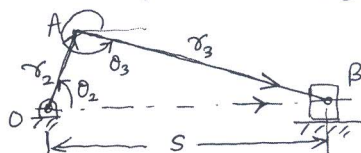

Fig.Q5(a)
- 5 a. For the slider crank mechanism shown in Fig.Q5(a), write (i) loop closure equation (ii) differentiate loop closure equation with respect to time to get velocity equation (iii) differentiate velocity equation with respect to time to get acceleration equation.
- b. In Fig.Q5(a), if  $r_2 = 100\text{mm}$ ,  $r_3 = 350\text{mm}$ ,  $\theta_2 = 60^\circ$ , find angular velocity and angular acceleration of connecting rod if crank rotates uniformly at 600 rpm in CCW direction.